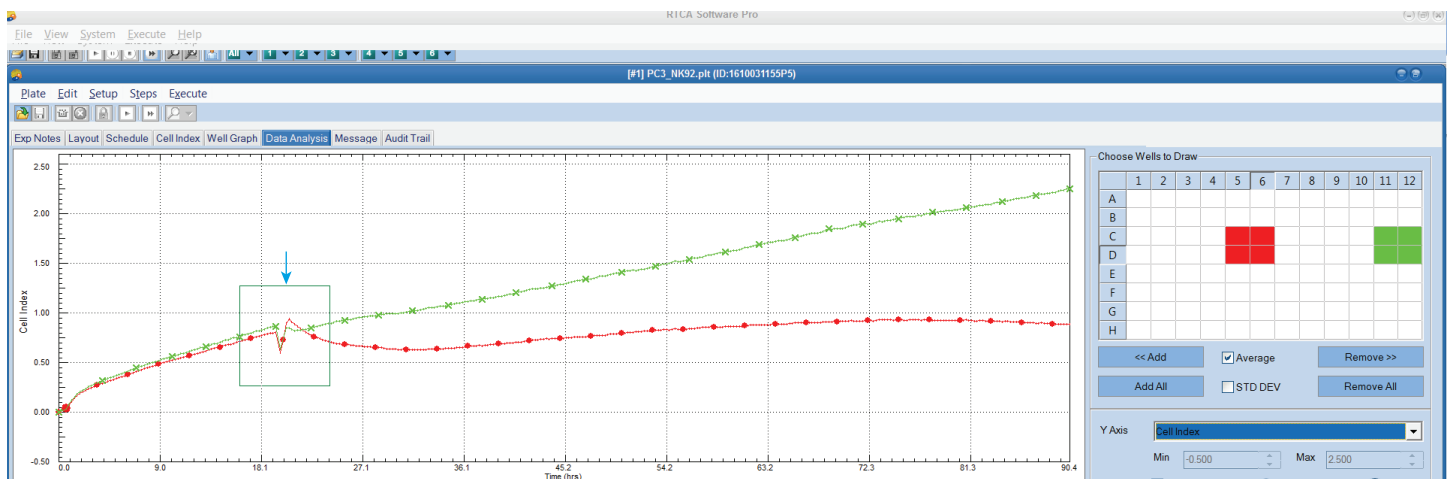

Figure 3. Selecting an area to zoom.
2. Before calculating the cytolysis, the Cell Index must be normalized. To find the correct point to start normalization, look for the point where the curve usually has a small bump or change in direction. When the plate is removed and effectors are added, the plate temperature changes, and the cells slightly shrink or expand, depending on the cell type. This causes a change in the Cell Index. Drag a square around that region with your mouse to zoom in (Figure 3).